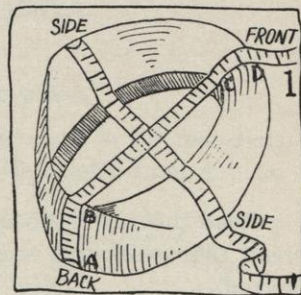

FIG. 1.
- Measure from front to back and from side to side of the model frame or the block (see Figure 1) or measure across the smallest and the largest part of model frame or of block.